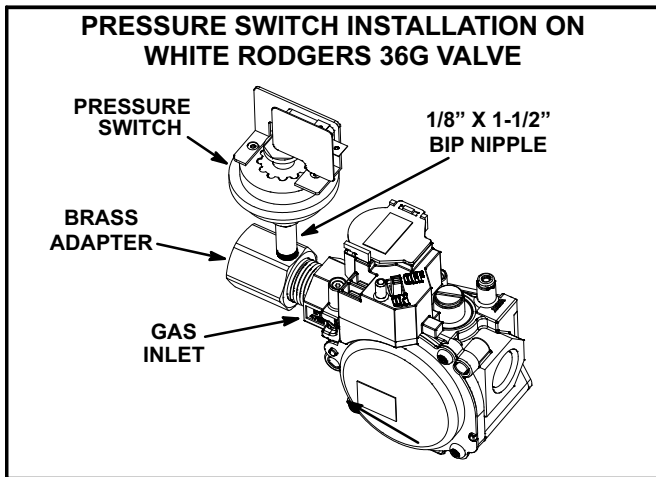

FIGURE 8
- Thread the brass adapter into the gas inlet and tighten by hand. Using the properly sized wrench, tighten the fitting taking care to position the side port as shown in figure 8. Apply pipe thread compound to the adapter threads before connecting to gas valve.